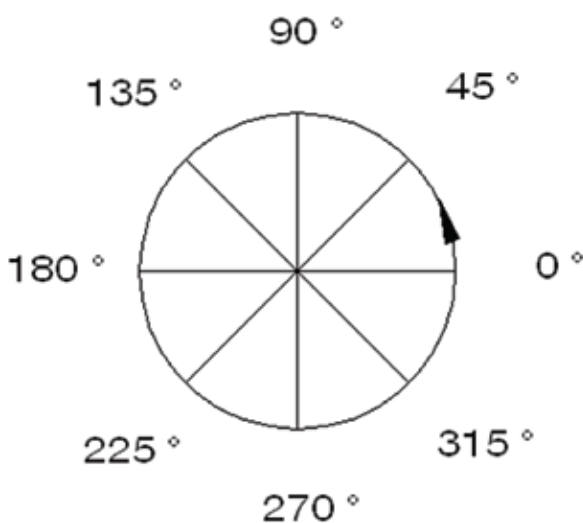

Figure 7.1
Angular or degree information on a computer is traditionally counter clockwise. See Figure 7.1 below.
- The direction or angle is determined by examining Figure 7.1.